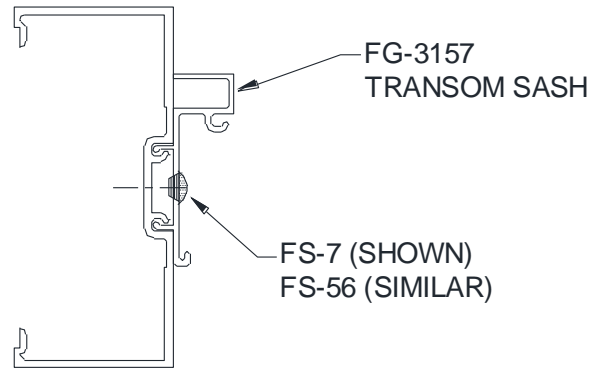

Figure 14: ArmorDefend™ Transom Sash Installation
4.3 Install **FG-3157** Transom Sash when applicable. Slide Transom Sash into Door Jamb and Horizontals and secure with Fastener per chart. Reference *Figure 14* for Fastener location.